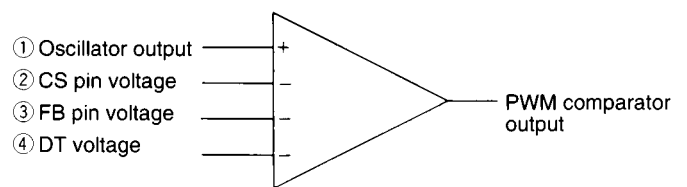

Fig. 3 PWM comparator
The PWM comparator has four inputs as shown in Figure 3. Oscillator output ① is compared with CS pin voltage ②, FB pin voltage ③, and DT voltage ④. The lowest of three inputs ②, ③, and ④ is compared with output ①. If it is lower than the oscillator output, the PWM comparator output is high, and if it is higher than the oscillator output, the PWM comparator output is low (see Fig. 4).